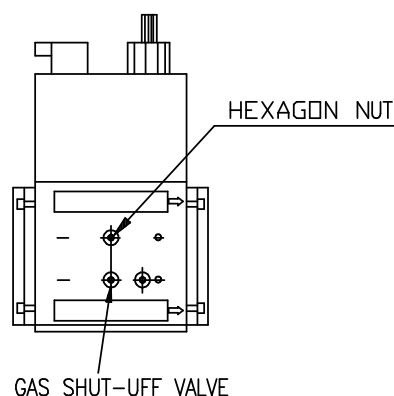

Fig.8-4. Leak Test Port
- Remove the hexagon nut furnished on the main gas shut off valve. (See to Fig. 8-4.)
(see Fig. 8-4.)